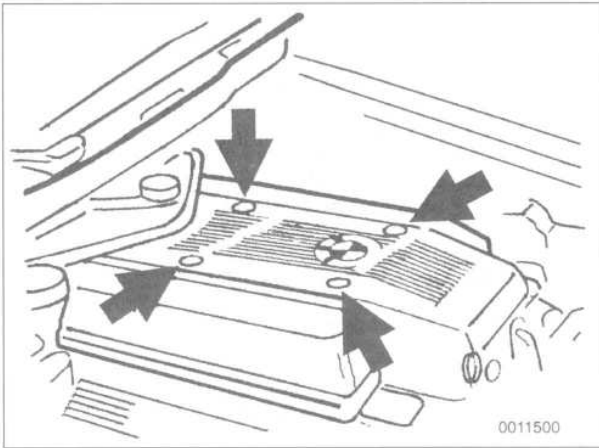

Fig. 12. Pry out caps to access nuts (arrows) on M60 engine covers.
2. Remove plastic cover from center top of engine. Remove both plastic covers from top of left and right cylinder head covers. See Fig. 12.